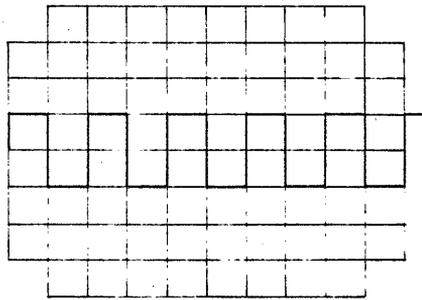

Figure 5
- 3) Move the trace to approximately the center of the screen by adjusting CH1 POSITION knob (8) and horizontal POSITION knob (31).
- 4) So adjust the FOCUS knob (3) that the trace becomes sharpest.
- 5) Connect the probe to CH1 INPUT terminal (18) and apply to the probe the signal of CALIB terminal (4), and set rotation switch in the  $\times 10$  position.
- 6) Set the GND (20) switch in the popped up state (I), and so adjust the LEVEL knob (27) that the displayed waveform becomes stationary. A waveform as shown in Figure 5 must be displayed on the CRT screen.